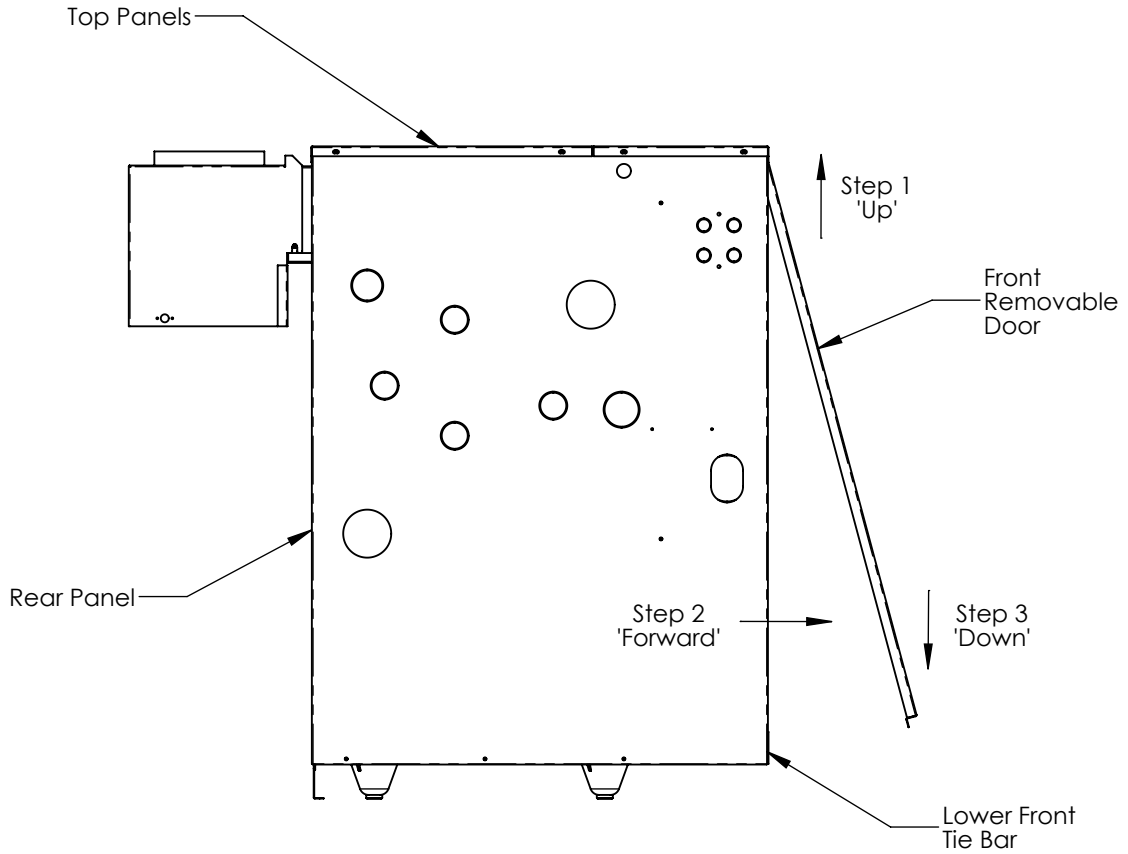
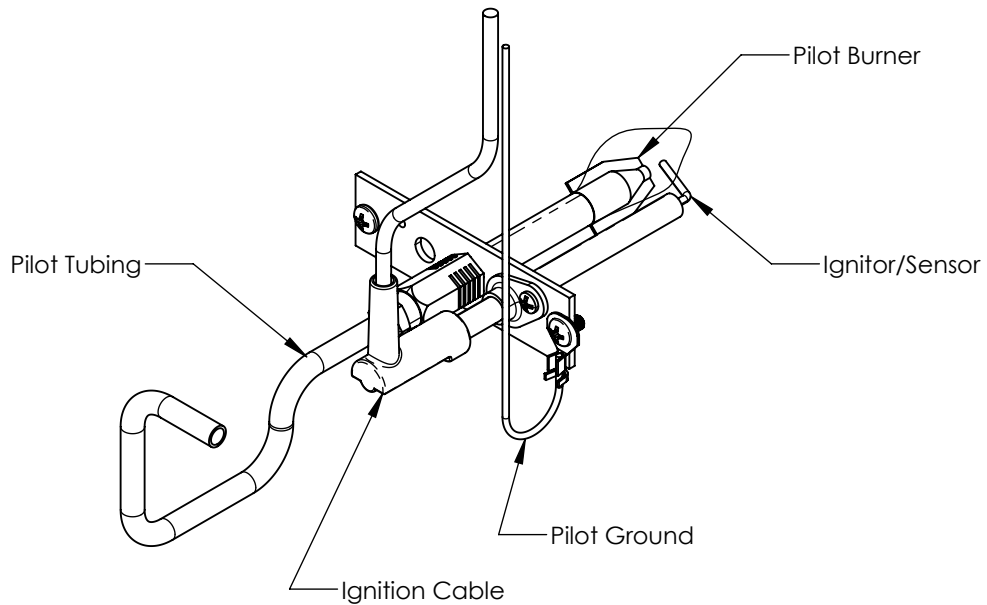

Figure 10-2: Front Door Removal
Figure 10-3: Pilot Burner Flame
10. Observe pilot burner flame visible through observation port. See Figure 10-2 for front door removal. A steady medium blue flame will cover ignitor/sensor. See Figure 10-3.